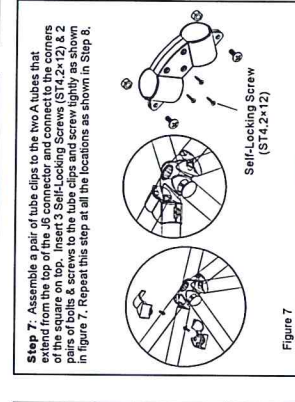

Figure 7
**Step 7:** Assemble a pair of tube clips to the two A tubes that extend from the top of the J6 connector and connect to the corners of the square on top. Insert 3 Self-Locking Screws (ST4.2x12) & 2 pairs of tube clips & screws to the tube clips and screw tightly as shown in figure 7. Repeat this step at all the locations as shown in Step 8.